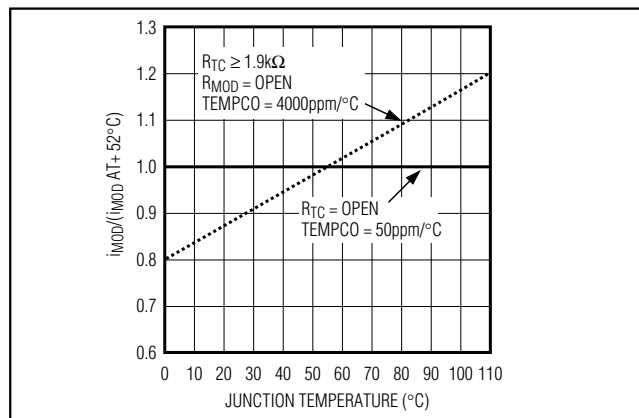

Figure 5. Modulation Current vs. Temperature for Maximum and Minimum Temperature Coefficient
The amplitude of the modulation current is set with resistors at the MODSET and temperature coefficient (TC) pins. The resistor at MODSET (R_{MOD}) programs the temperature-stable portion of modulation current, while the resistor at TC (R_{TC}) programs the temperature-increasing portion of the modulation current. Figure 5 shows modulation current as a function of temperature for two extremes: R_{TC} is open (the modulation current has zero temperature coefficient) and R_{MOD} is open (the modulation temperature coefficient is 4000ppm). Intermediate tempco values of modulation current can be obtained as described in the *Design Procedure*. Table 3 is the R_{TC} and R_{MOD} selection table.